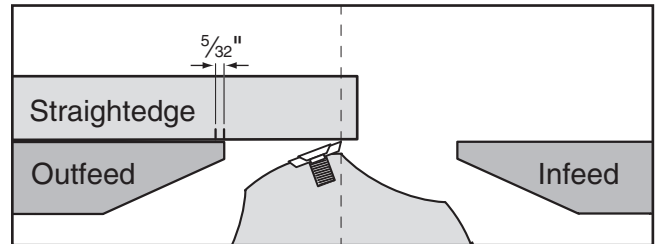

Figure 46. Lining up 1st mark on straightedge with edge of outfeed table.
- b. Line up the first mark with the edge of the outfeed table (see **Figure 46**).